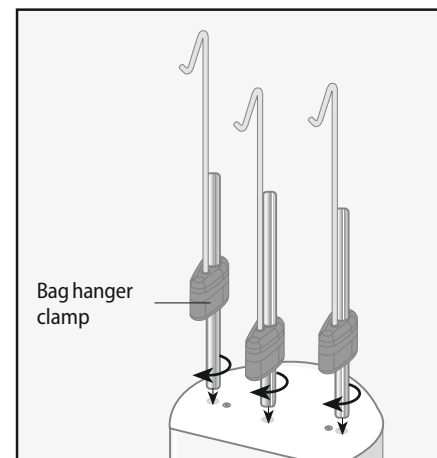

Figure 1.13: Attach bag hangers.
9. Attach bag hangers. Tighten rods with clockwise twists until hand tight. The height of the bag hangers can be adjusted by pressing the bag hanger clamps (see Figure 1.13).